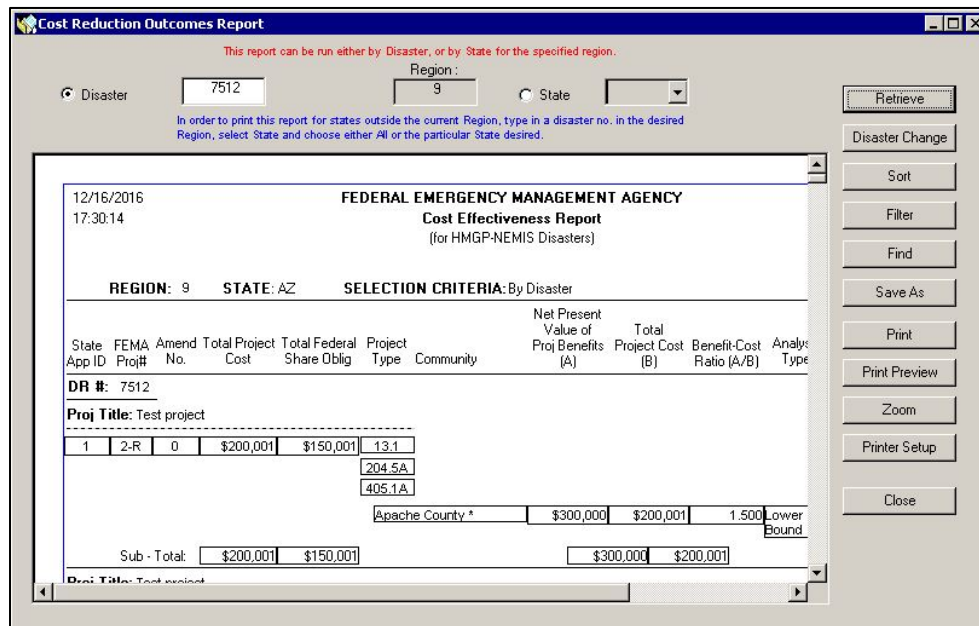

Figure 14-17: Generated Benefit Cost Report
- d. Click the RETRIEVE button. The generated Benefit Cost Report is displayed (Figure 14-17).